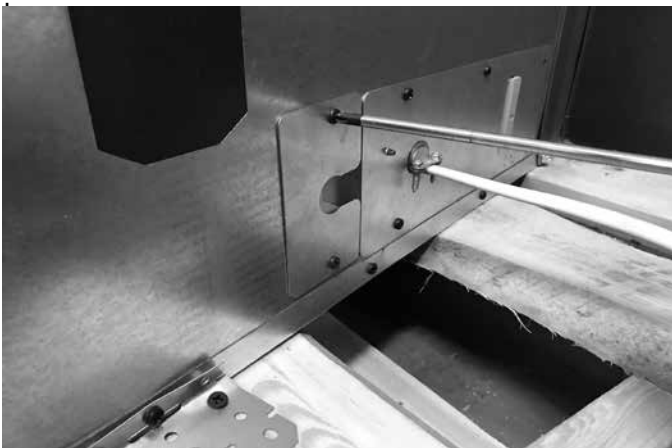

Figure 8.1 Access Cover
- Remove side access cover, (2) screws. See Figure 8.1.